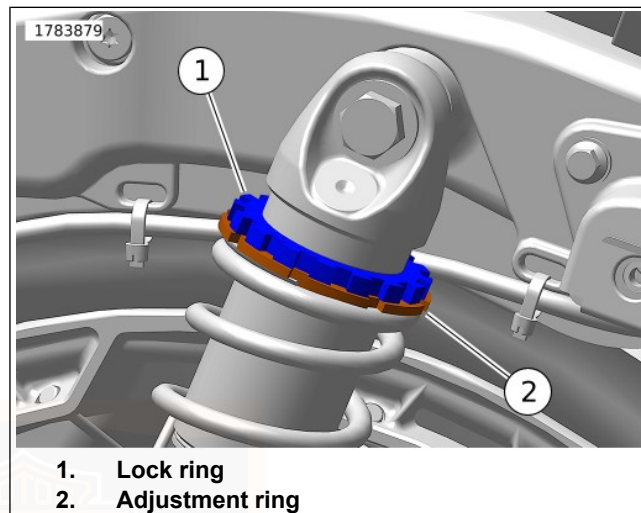

Figure 13. Threaded Adjuster (Right Side Shock Absorber)
5. See Figure 13. Using the provided spanner wrench, turn the lock ring (1) on right shock counterclockwise (CCW) to minimum (MIN).
6. Turn the adjustment ring (2) clockwise (CW) until the distance from the top of the adjustment ring to the bottom of the lock ring (in mm) matches the calculated preload distance determined in steps 3 and 4, above.